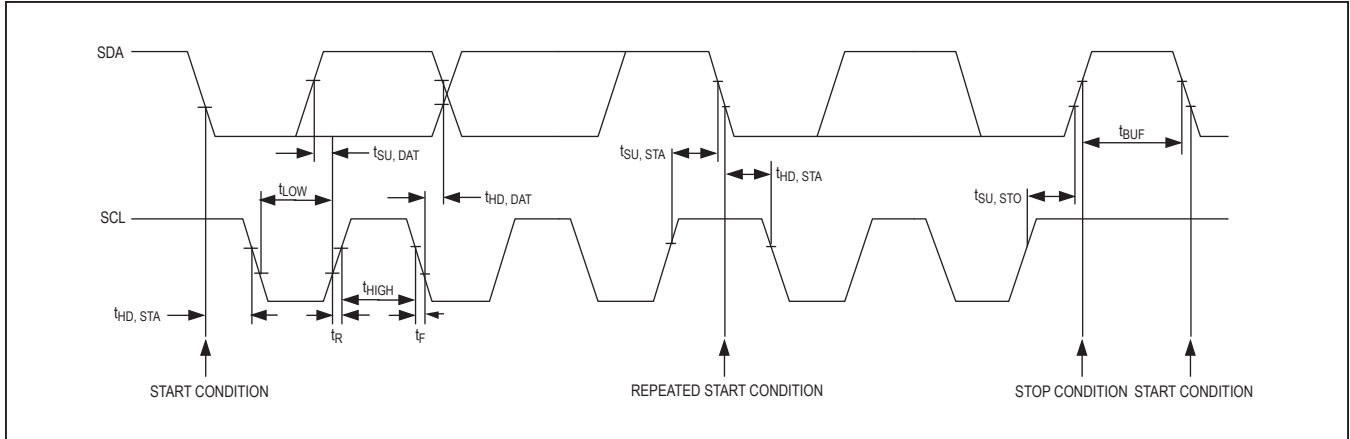

Figure 2. 2-Wire Serial Interface Timing Details
**Timing Characteristics (Figure 2)**(  $V_{V+} = 2.5V$  to  $5.5V$ ,  $T_A = T_{MIN}$  to  $T_{MAX}$ , unless otherwise noted.) (Note 1)
### Timing Characteristics (Figure 2) (continued)
The MAX7300 operates as a slave that sends and receives data through an I2C-compatible 2-wire interface. The interface uses a serial data line (SDA) and a serial clock line (SCL) to achieve bidirectional communication between master(s) and slave(s). A master (typically a microcontroller) initiates all data transfers to and from the MAX7300, and generates the SCL clock that synchronizes the data transfer (Figure 2).